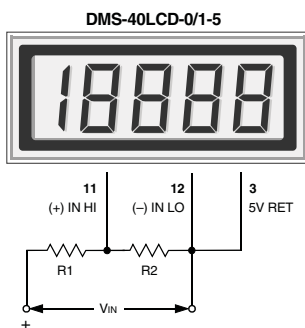

**Figure 3. Differential Input Configuration (5V-Powered Models)**
**2. Differential Input Configurations:** Differential measurements can be made with either 5V-powered or 9V-powered meters. Figure 3, though not a practical real-world application, uses a voltage divider to demonstrate the concept of a differential input signal. Be careful not to exceed the ±2V common mode voltage limitation for 5V-powered meters.